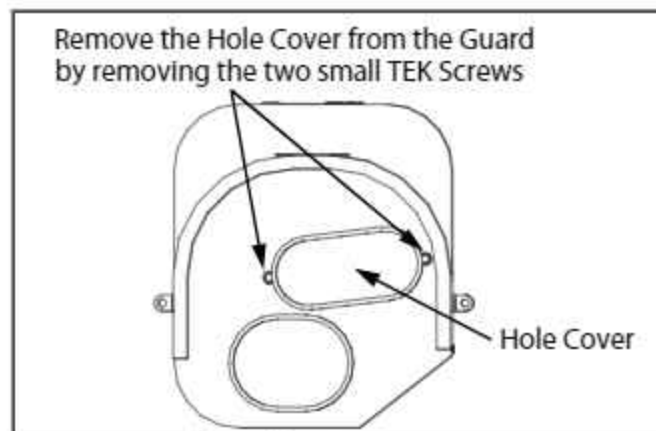

FIG. 7-3. Guard Modification
10. Remove the extra shield cover in the guard as shown in Fig. 7-3. Replace the guard and bolt in place.